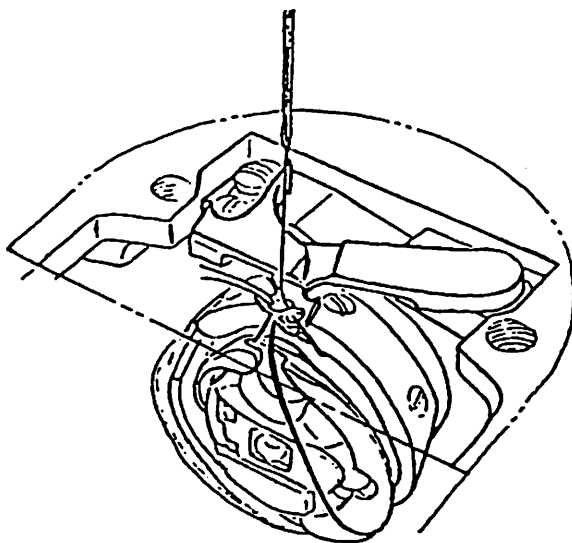
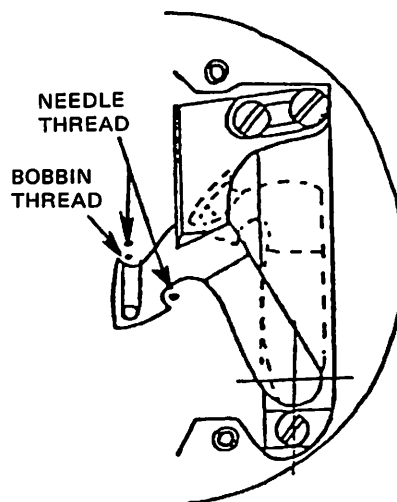
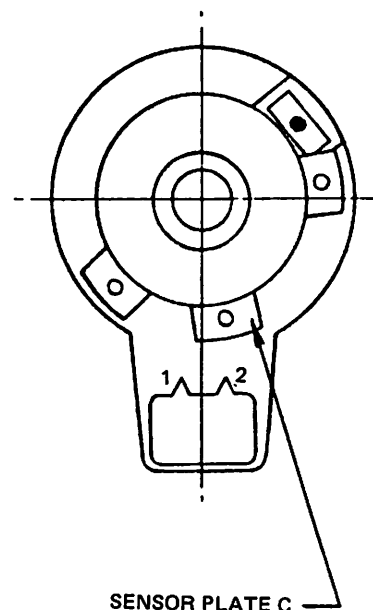

Fig. 8
Fig. 9
Fig. 10
4. When the cam follower on the thread puller action plate slips into the recessed portion of the thread puller action cam adjusting plate, the thread puller is activated to move through the loop (Fig. 8) to a point shown in solid line in Fig. 9, and the needle and bobbin threads are positioned as shown also in Fig. 9. Simultaneously, the thread puller action plate pushes the tension release action plate making its pin ride on the tension release action cam. Immediately when the pin rides on the tension release action cam, the electronic command relayed from the sensor plate C (yellow, Fig. 10) cuts off the current supply to the trimmer solenoid. The above motion makes the tension releasing cam rotate until just before the tension discs are released.